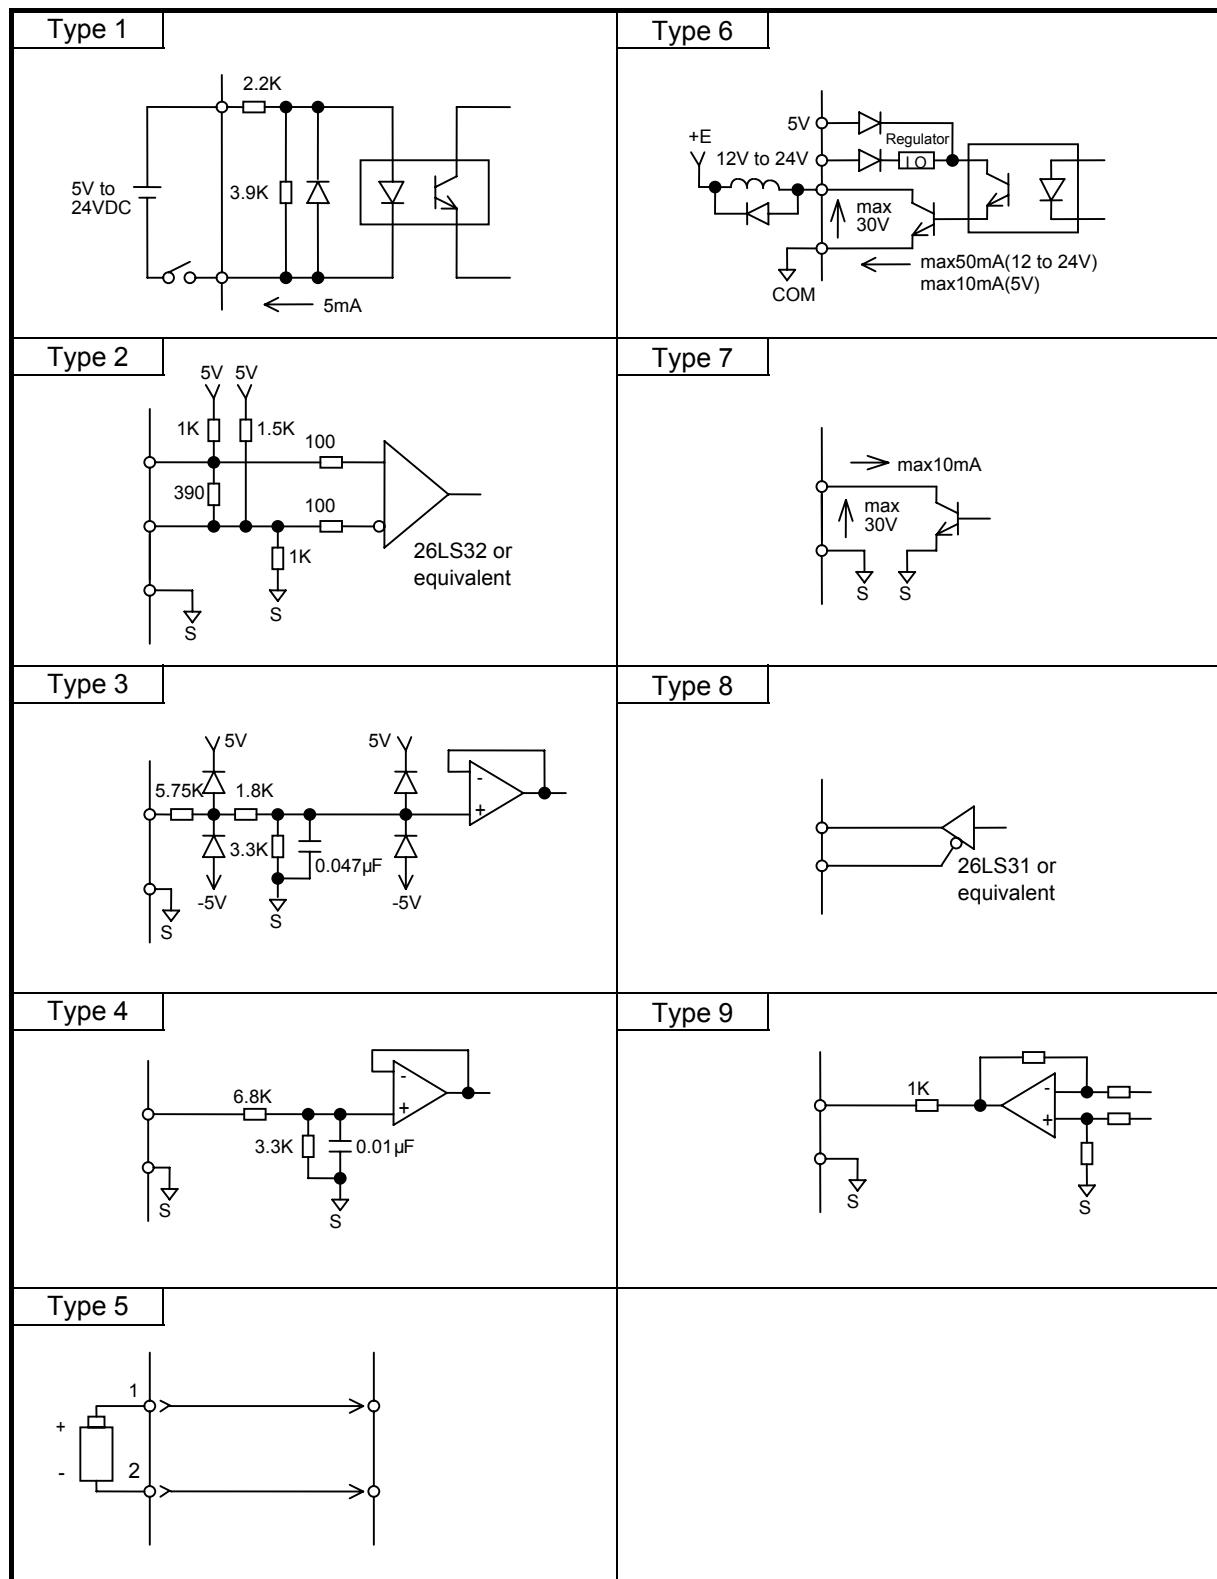

Fig. 9-20
This section explains the general specifications of CN1 input/output signals of the position control type. Fig. 9-20 shows the circuit types of CN1 input/output signals, and Tables 9-6 and 9-7 describe the general specifications.
*2 For the circuit type, see Fig. 9-20.